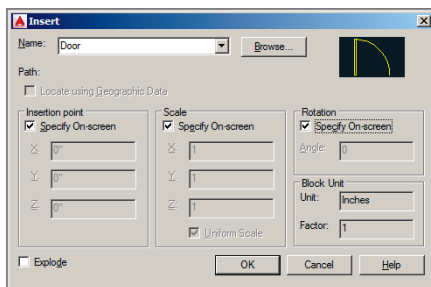

FIGURE 7.13 Specifying everything onscreen when inserting a block
12. Press the spacebar to repeat the INSERT command. Select Specify On-Screen in the Scale section of the Insert dialog box (see Figure 7.13) and click OK.